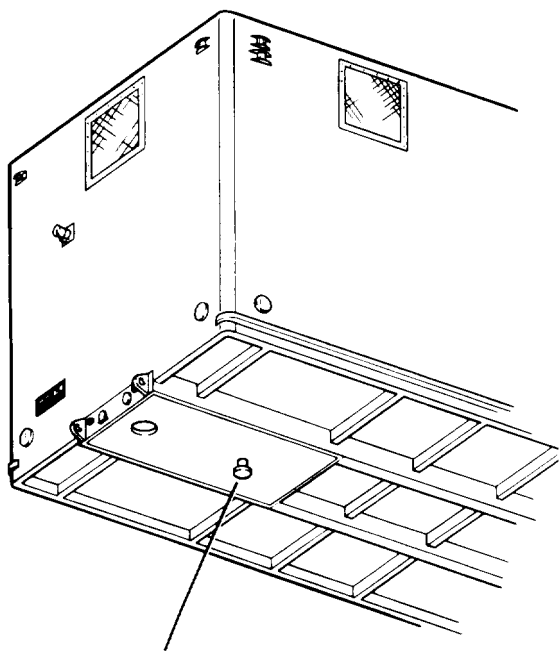

Figure 2-12. Kingpin
b. Protrudes from the center of the fifth wheel upper plate of the semitrailer (1, figure 2-12).